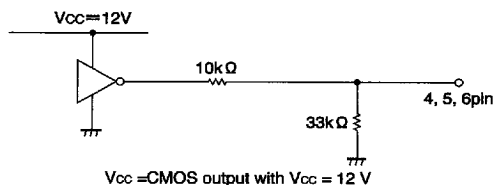

Fig.7
- (1) Though the IC input pins can be directly connected with MOS output pins, it is recommendable to connect resistors of about $3 \sim 30\text{k}\Omega$ between the pins for the sake of pin protection (see Fig. 7).
- (2) When reversing the rotational direction of a motor, make sure to go through the brake mode in-between the opposite directions. It is recommendable to keep the brake mode for at least $10\text{ }\mu\text{s}$.
- (3) Powering procedures should be designed so that V_{CC1} (pin 7) always rises first and falls last.